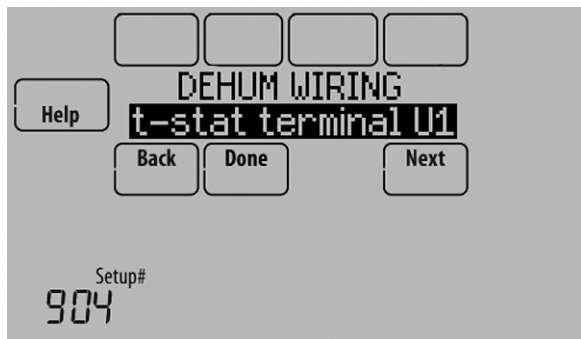

Fig. 132.
2. Select the terminals wired to the Whole House Dehumidifier. See Fig. 132.